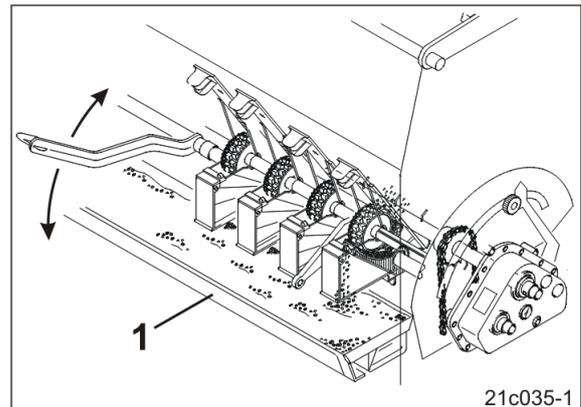

Fig. 211
6. Place the calibration trays (Fig. 211/1) on the funnel rail, see section "Placing the calibration trays on the funnel rail", page 129.